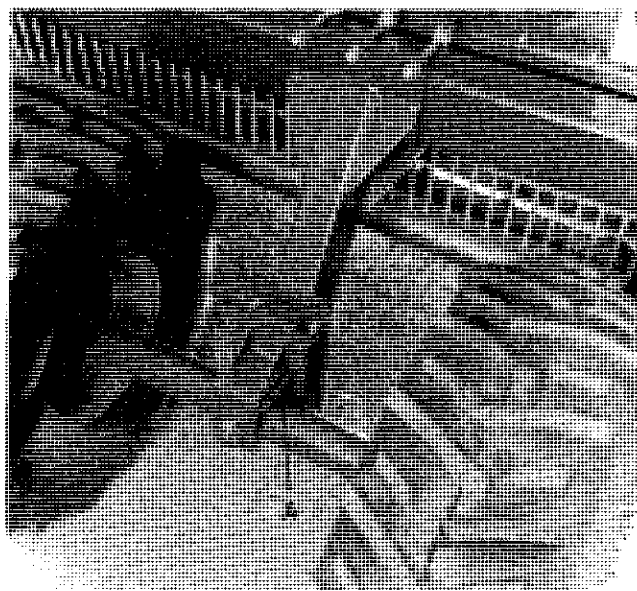

FIGURE 43 - OSCILLATING CARRIER WHEEL
Raise the rear frame bar with a jack or hoist. Use figure 10, page 11, to determine settings for carrier wheels. It is recommended that the left oscillating carrier wheel be set to run in the far left dug row. The left wheels may also be set to run straddling the dug rows, depending on field conditions. If the wheel setting desired is different than figure 10, page 11, add or subtract the appropriate half row spacing from the dimension given. Position the left carrier wheels first. Adjust height of carrier wheels by moving spindle support bracket (A) so machine runs parallel to ground at digging depth (2" to 3 1/2") (see figure 43).
**For traction tires,** a 3 inch wheel strut extension is added (bolted to A) (see figure 43) to give more clearance from the tires to the frame on the left side of the harvester. For the right side, the walking beam should be assembled as shown in Figure 10, Page 11. To change the walking beam, remove the axle bolt lock nut. Remove the four (4) plate support bolts; then remove the plate and shims. Slide the walking beam off the axle and turn around.